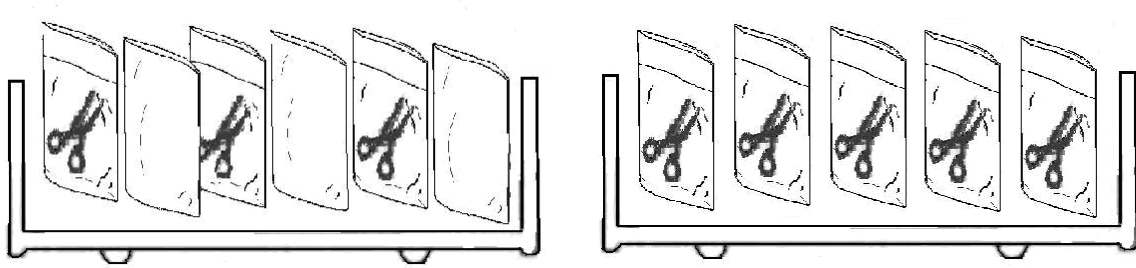

Figure 59
- C. If implements are packed with sterilizing pouches and placed inside a sterilization box, make sure to display items as shown in Figure 59.